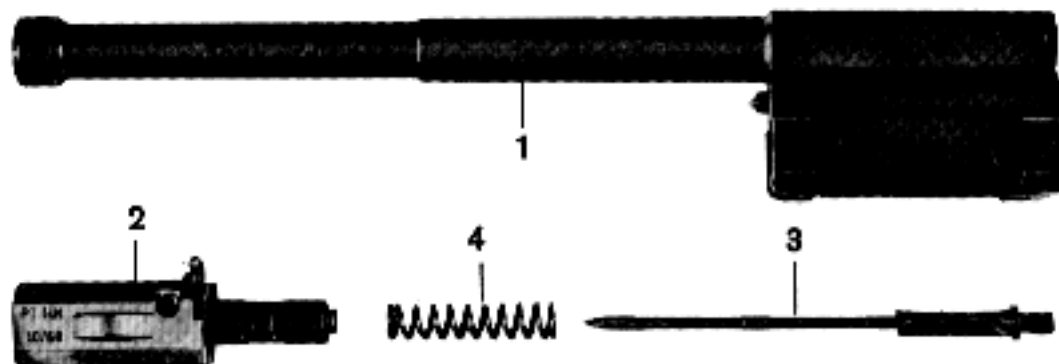

Fig. 31: Plastic training breech block
(2) Plastic training breech block (Fig. 31)